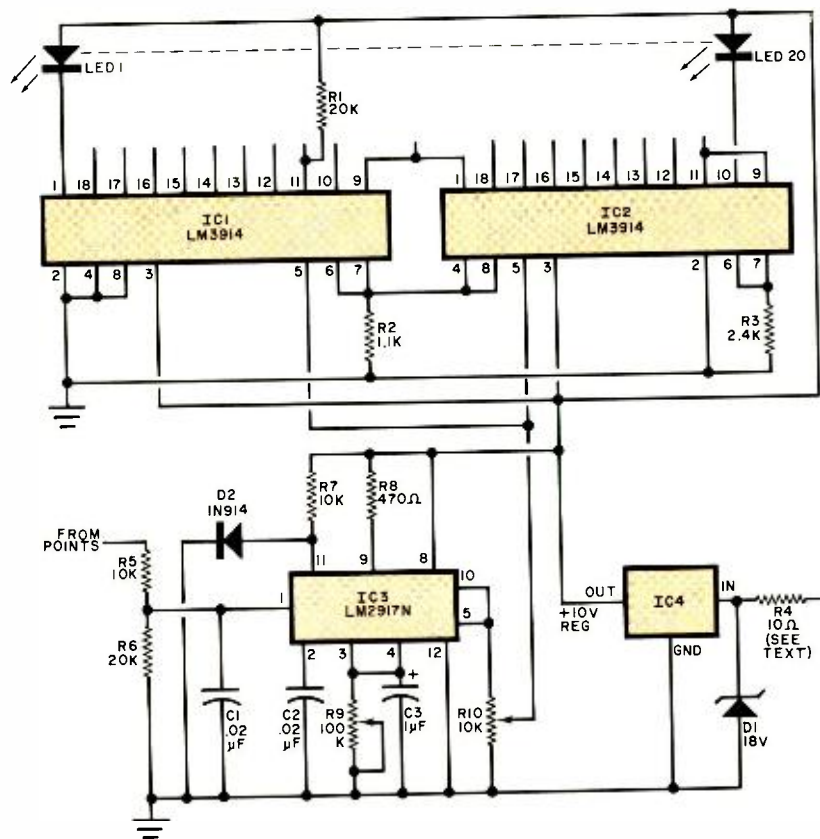

Fig. 13. Circuit for converting pulses from ignition points to voltages which activate LEDs from 1 to 20 to indicate speed.
**Tachometer.** The circuit shown in Fig. 13 consists of a basic 0-to-2.4-volt meter system and a frequency-to-voltage (f/v) converter. The voltmeter portion made up of IC1 and IC2 features 20 divisions, each represented by a LED. The IC3 f/v converter accepts varying-frequency pulses from the engine's ignition points and converts them into proportional dc voltages with constant updating.
In Fig. 13,  $R_5$ ,  $R_6$ , and  $C_1$  condition the input signal from the points. A stable-temperature-characteristic capacitor must be used for  $C_2$ , which is the timing capacitor for the charge pump. Potentiometer  $R_9$  serves as the discharge path and doubles as the scale calibration control. Charge-pump filtering is provided by  $C_3$ . The uncommitted emitter of the internal output transistor is connected to  $R_{10}$ .
### PARTS LIST (Fig. 13)
There are simple ways to give a large measure of transient protection to home-built projects. GE's MOV transient protectors is one simple way. A second method is shown in Fig. 13, where 10-ohm resistor R4 and 18-volt zener diode D1 protect the power input line. If the circuit is to take care of a blown regulator, where 18 volts may be on the line continuously, the division of dissipated power between the zener diode and resistor must be calculated. Once breakdown occurs, the circuit will be carrying well over 1 ampere of current. This means that the power (wattage) ratings of the resistor and diode must be calculated.